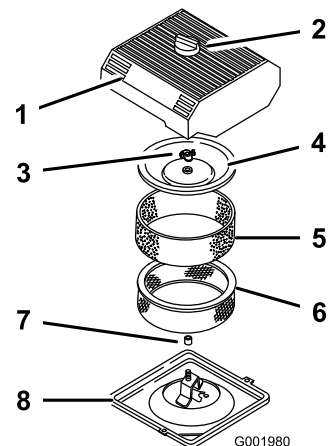

Figure 43
3. Clean around the air cleaner to prevent dirt from getting into the engine and causing damage (Figure 43).
- Loosen the knob on the air cleaner cover and remove the cover (Figure 43).
- Carefully slide the foam element off the paper element (Figure 43).
- Unscrew the cover nut and remove the cover and paper element (Figure 43).
- Carefully slide the foam element onto the paper air cleaner element (Figure 43).
- Install the cover nut finger-tight against the cover (Figure 43).
- Install the air cleaner cover and knob (Figure 43).